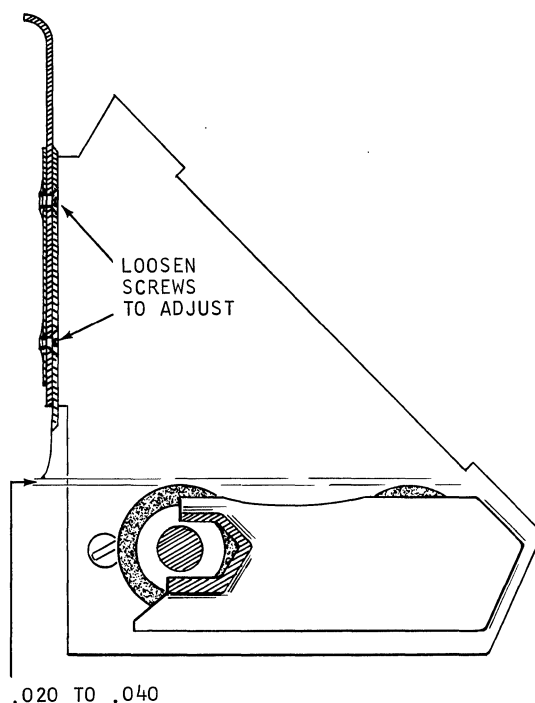

Figure 2-9. File Feed Adjustments
6. The lower magazine throat should be $.020''$ to $.040''$ above the imaginary plane determined by the tops of the feed rolls (Figure 2-9).